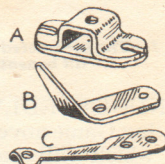

Fig. 6—The brass connections.
Before proceeding further with the wiring, obtain a piece of $1/16$ in. thick sheet brass in order to make the pivot support and plates (A), and switch arm (B) illustrated at Fig. 6. The contact shoe (C) must be made from light springy brass or thin tin.